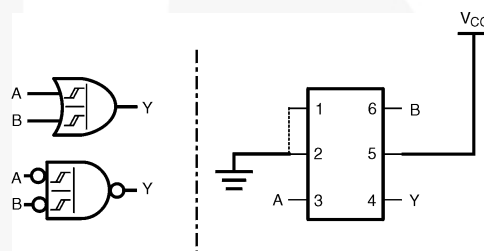

Figure 12. 2-Input OR Gate
| 2-Input NAND with Both Inputs Inverted | NC7SZ58          | Figure 12                |
| 2-Input OR                             | NC7SZ58          | Figure 12                |
- CPD is defined as the value of the internal equivalent capacitance which is derived from dynamic operating current consumption (ICCD) at no output loading and operating at 50% duty cycle. (See Figure 12) CPD is related to ICCD dynamic operating current by the expression: ICCD = (CPD)(VCC)(fin) + (ICCstatic).